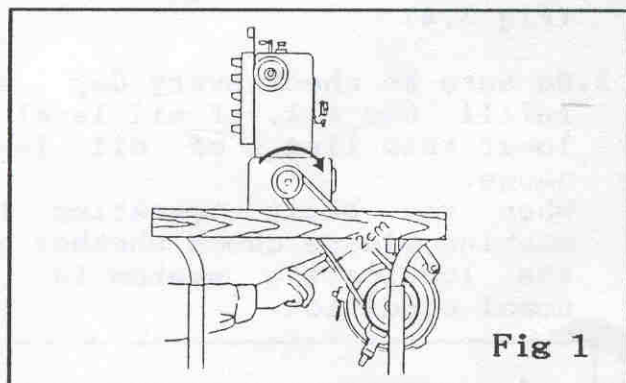

Fig 1
2. Be sure that the motor turning direction is clockwise, and the motor belt tension can be pressed with finger inward about 2 cm. For safety reason, please fasten the belt cover. (Fig 1,2)